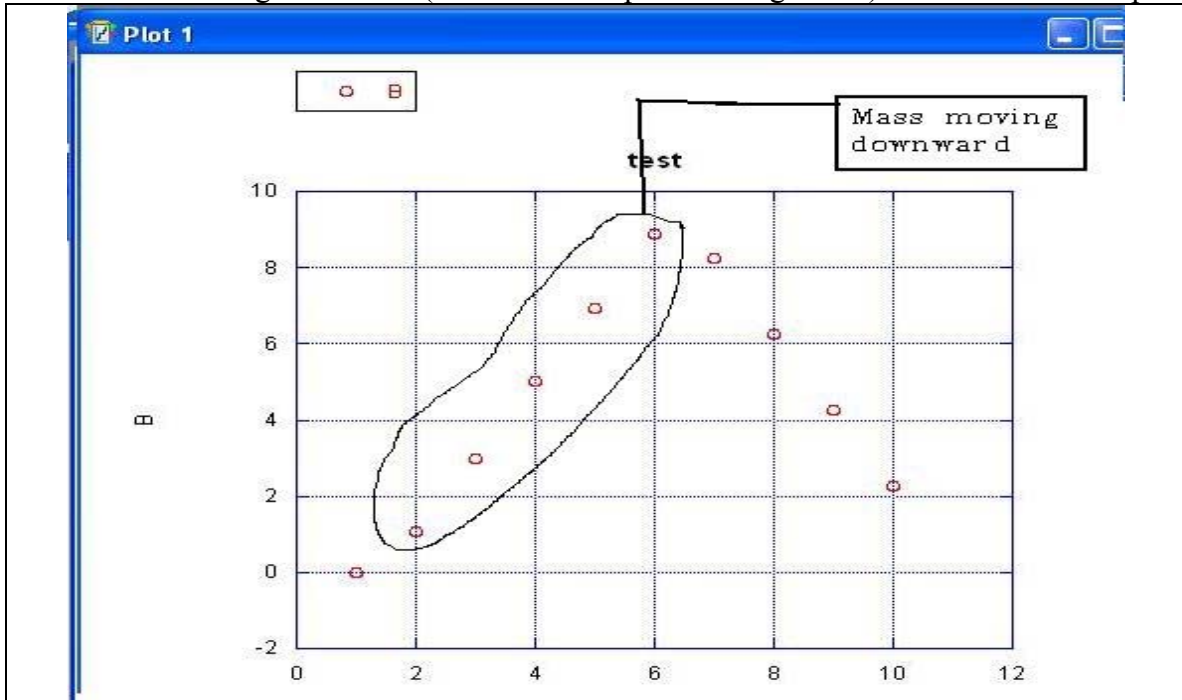

Figure 6S
5. Generate a plot – this will help you notice which points correspond to when the mass was moving downward (see the circled points in Figure 6S). Then discard this plot.